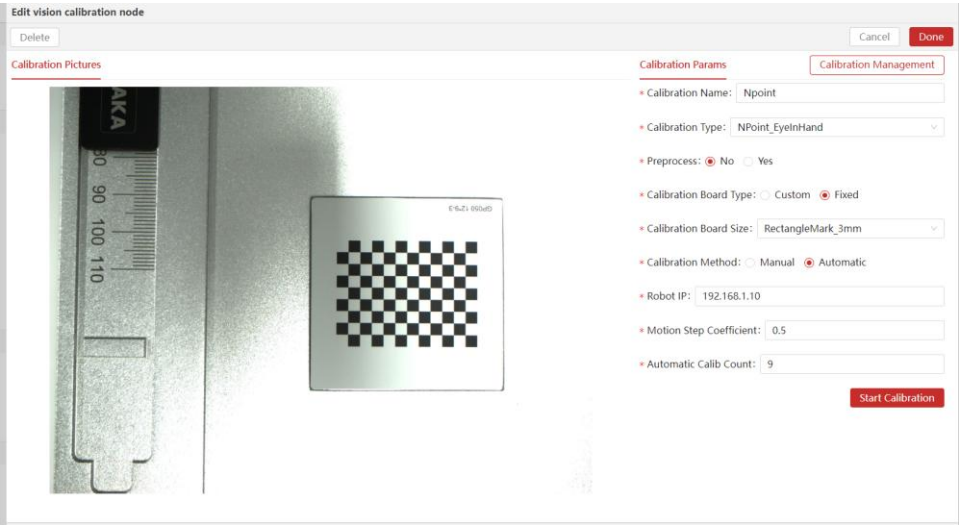

Figure 4.1-4
4) Open the calibration node, such as Figure 4.1-4, configure the calibration parameters, and ensure that [Start Calibration] after the robot is powered on and enabled. If the calibration board exceeds the field of view, please appropriately enlarge and reduce the motion step coefficient. After successful calibration, click [Finish].